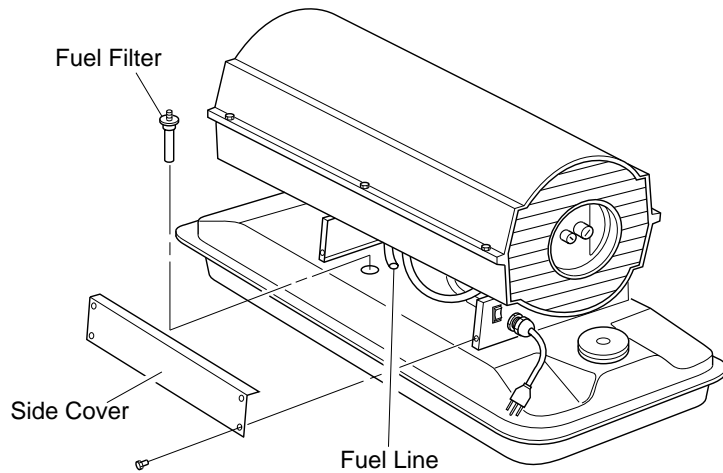

Figure 9 - Fuel Filter Removal, D20N Model
3. Remove 4 side cover screws with a 5/16" nut driver. Remove side cover (see Figure 9 or 10, page 8).
12. Replace side cover (see Figure 9 or 10, page 8).